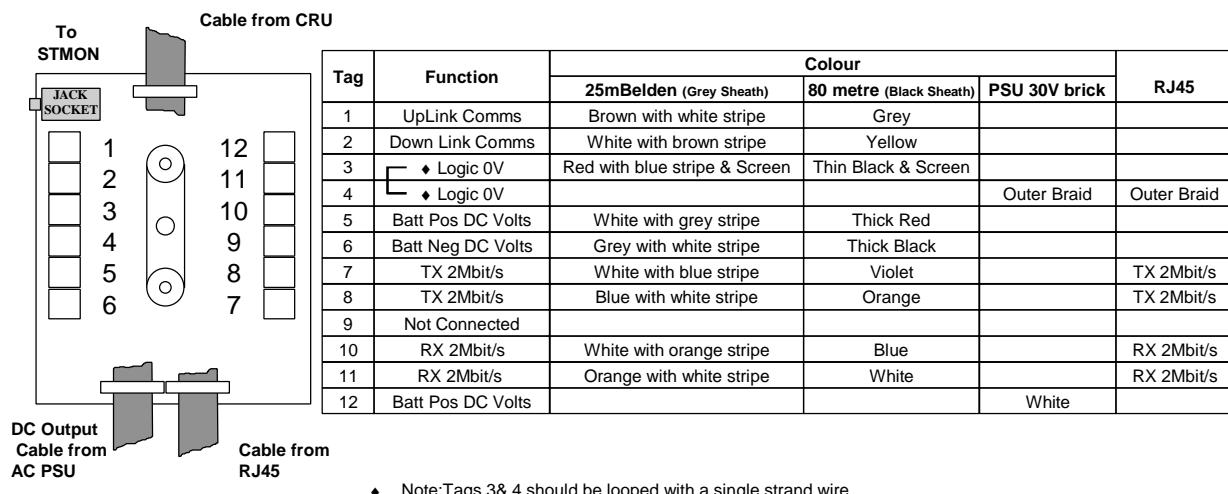
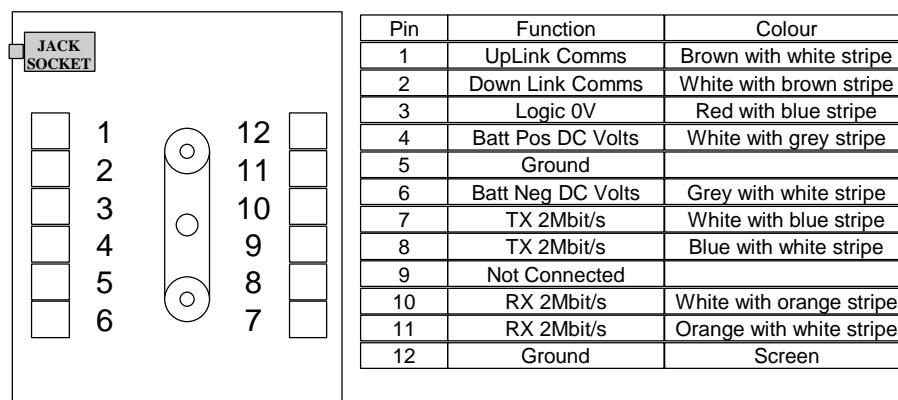

Figure 27. Drop Cable Connections to Junction Box.
Figure 28 Drop Cable Connections to Junction Box. Before Dec 1998
5. Figure 27 below, illustrates the connections of the drop cable to the connector blocks inside the Junction Box. Figure 28 shows the order of wire insertion to ensure that the cables fit in the junction box. When connecting the thick stranded wire ensure that the screws are fully undone and the hole fully opened to allow the wire to be inserted without displacing strands. A wire loop should be inserted between tags 3 & 4.